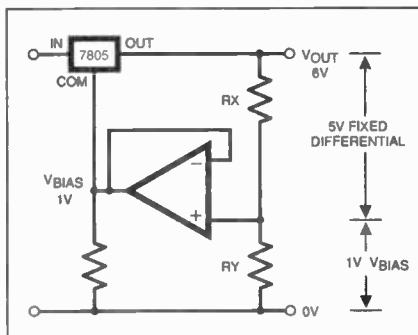

Fig.5. Potential divider use to control the voltage output from regulator IC1 at 6V.
As an example, and referring to Fig.5, consider the situation for $V_{out} = 6V$:
Referring to Fig.5, the voltage (call it V_b) across R_x is automatically specified as 5V, and thus the current (I) flowing through R_x is calculated as: